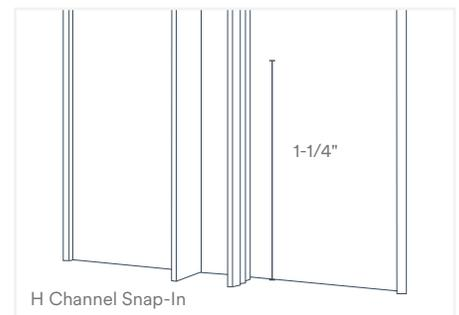

Fig. 35
3. Measure and mark 1-1/4" inwards from the bottom edge (end) of the H Channel Snap-In Trim. At the mark, make a vertical snip in both grooved standoffs using tin snips (Fig. 35).